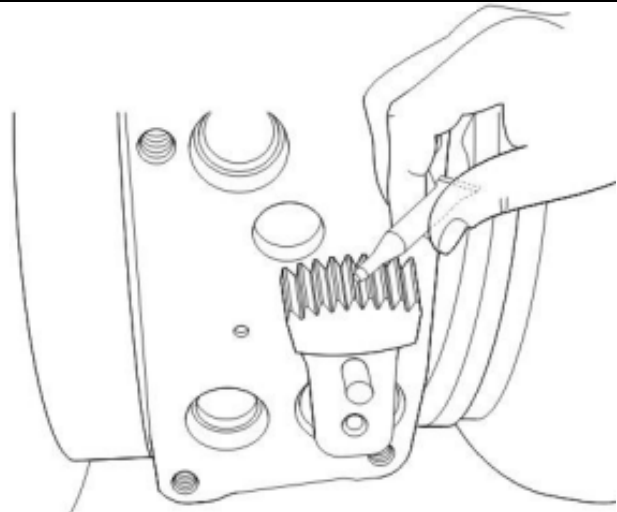

FIGURE 15
17. Lubricate the sector gear teeth using the grease applicator tube that comes in the installation kit (FIGURE 15).